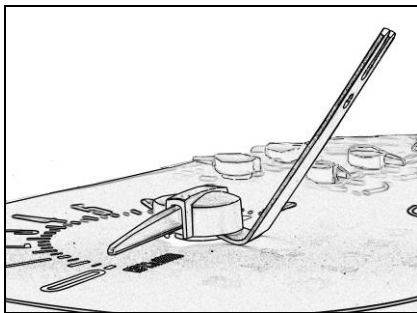

Figure 7
- B. Now that the gauges are all resting at their internal stops, position the Pointer Removal Tool by sliding the end marked "Pointer Remover" under the center of the pointer cap until it rests against the center pointer hub (see figure 7).